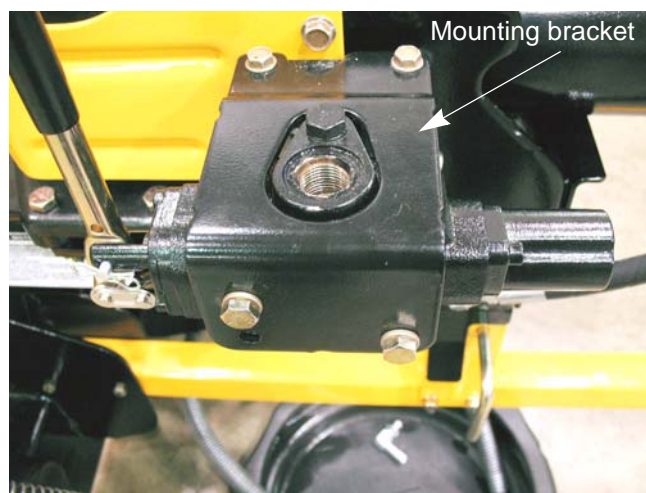

Figure 4.5
10. Remove the two screws that hold the valve to the mounting bracket using a 9/16" wrench. See Figure 4.5.
11. Remove the two screws that hold the mounting bracket to the cylinder using a 1/2" wrench. See Figure 4.5.